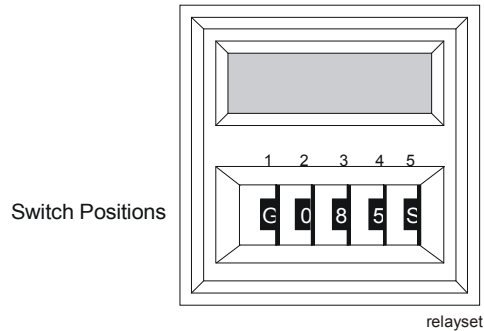

Figure 9: Timing Relay Settings
2. Verify that the relay settings match Figure 9 and Table 11.